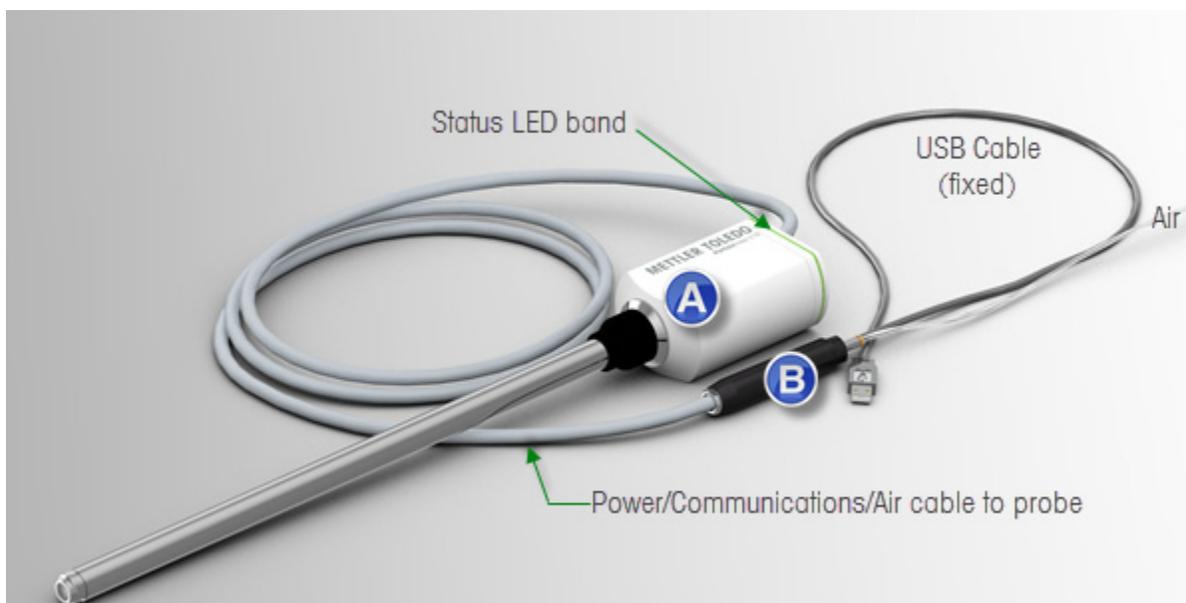

Figure 3-1 System configuration
Refer to Figure 3-1 for location of USB (power and communications) and air inputs on the ParticleView V19 interface unit.
- Power the control computer ON. The LED band on the interface unit (Figure 3-1) is solid blue when power is established.